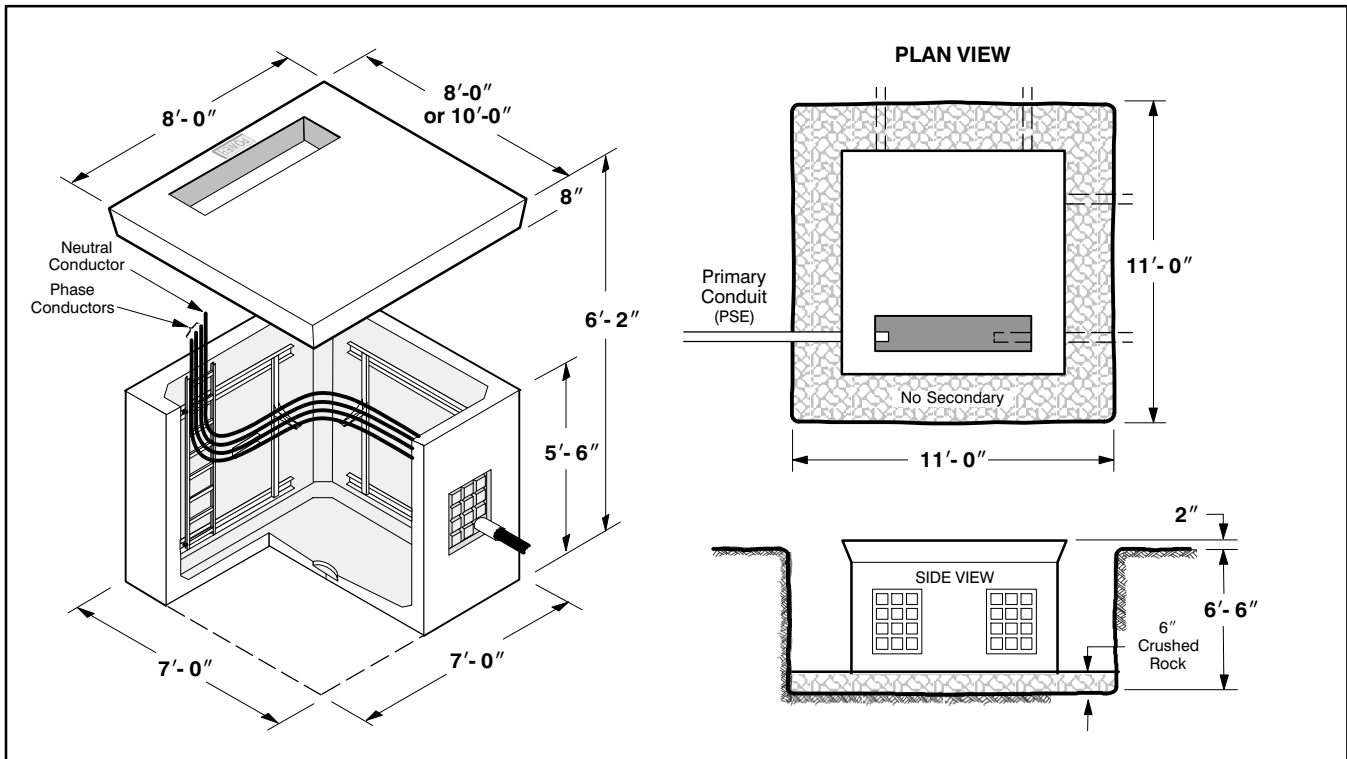

Figure 9 Racking of cable in vaults
- The neutral conductor shall be positioned on the cable ladder (see *Figure 9*).